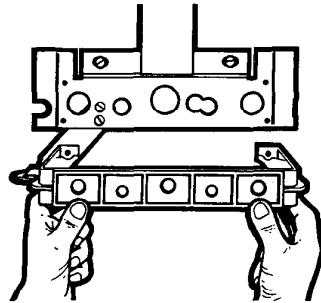

Fig. 21
- Attach plastic jig plate to bottom bracket using 4.6 mm × 10 hexagonal screws provided (fig. 21).